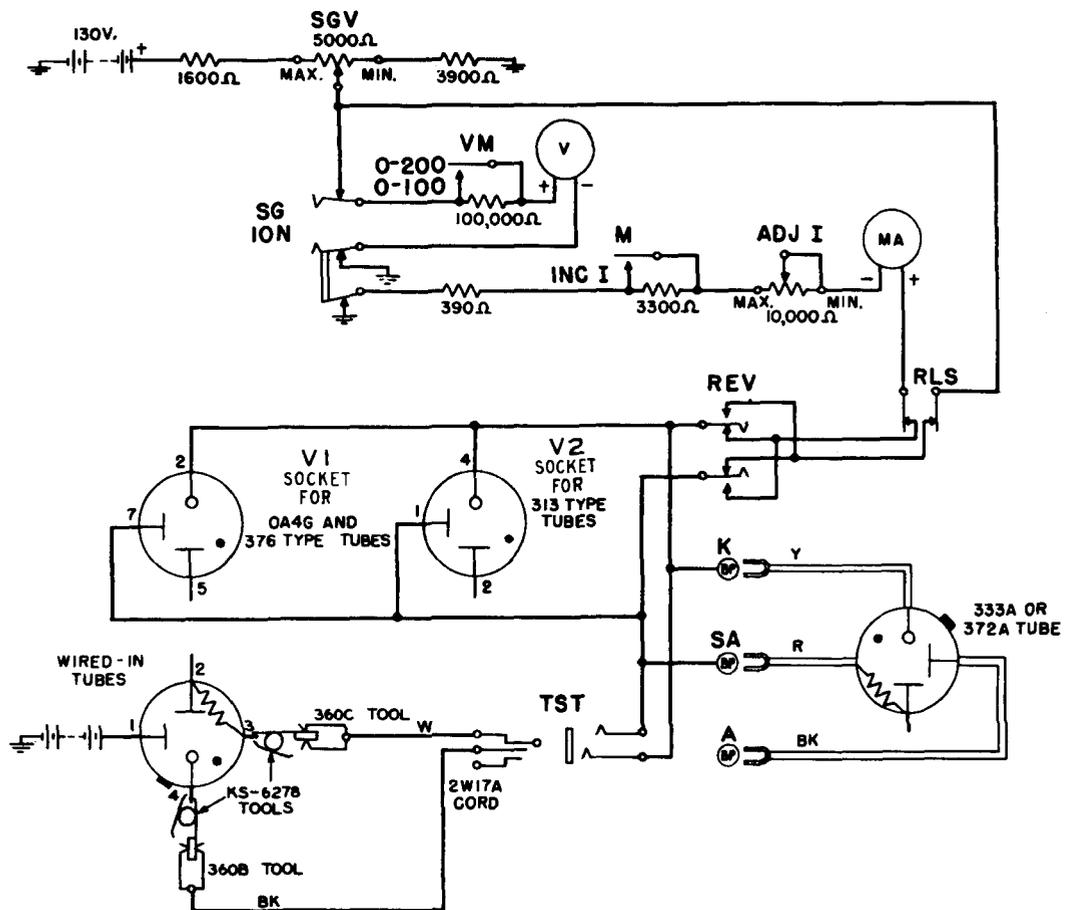

Fig. 2 - Starter Gap - Breakdown Tests - Three Element Tubes
4.01 The circuit arrangement for applying the breakdown test voltage to the starter gap of three element tubes is shown in simplified form in Fig. 2.